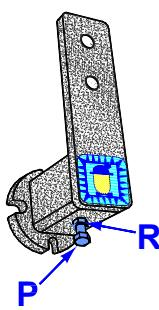
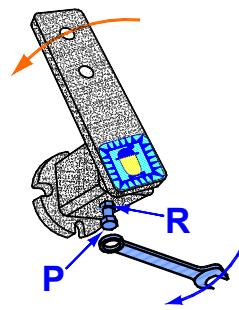

Fig.1
Fig.2
**UK** Tensioner is supplied as shown in figure 1; with **P** screw and **R** nut loosened, preload the tensioner on work table and tight **P** screw with a wrench until it stops, then fix also **R** nut (figure 2). The tensioner will remain in the position. Mount the tensioner on the machine and after fixing it with **M** screw, loosen **R** nut and **P** screw (figure 3).